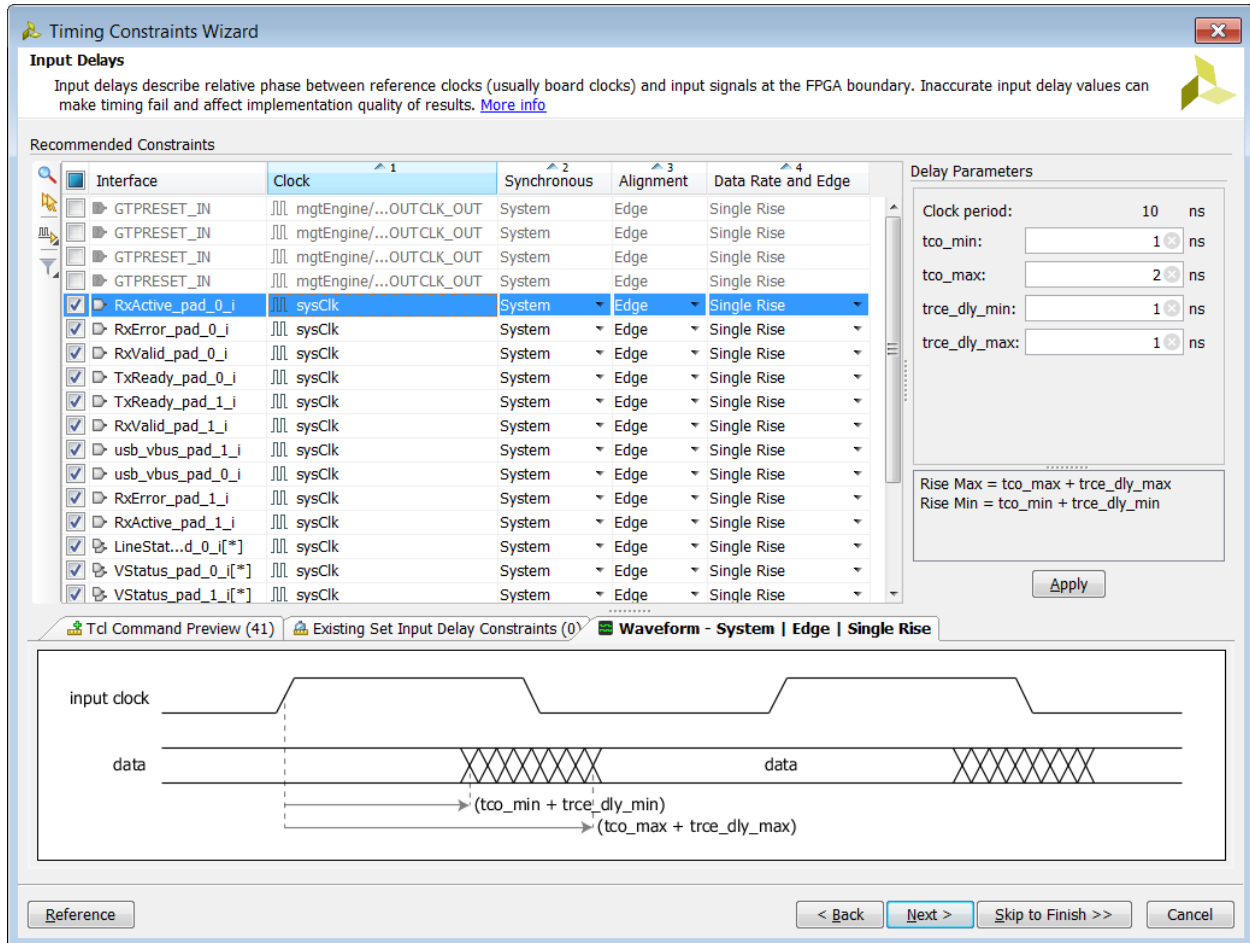

Figure 13: Completed Inputs Page of the Timing Constraints Wizard
The blocks of colored rows in Table 2 can all be entered at the same time in the Input Delays page of the Timing Constraints wizard (Figure 13, page 19) by selecting multiple rows in the wizard and then entering the values once. Some inputs are constrained relative to virtual clocks, since they are captured by an internal generated clock with a waveform different than the board clock. In this case, the wizard creates a virtual clock with the same frequency and waveform as the internal clock, and recommends a constraint relative to the virtual clock.
- Figure 13 shows the completed input delay page. Note the four constraints being skipped.